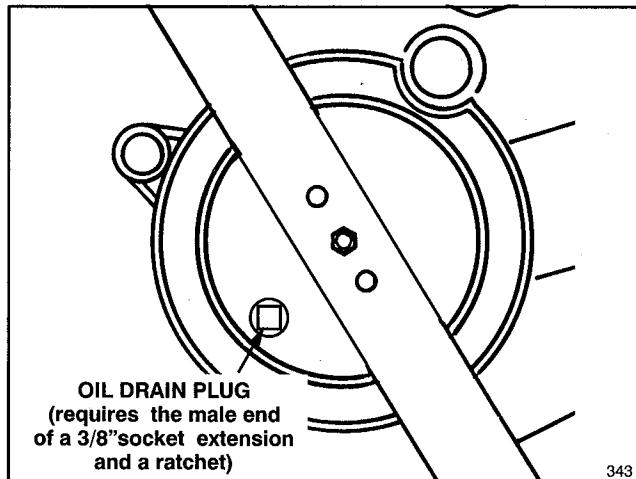

Figure 13
- The oil drain plug is on the underside of the mower deck (Fig. 13). The recommended procedure for tipping the mower to access the plug is to tip the mower backward onto its handle and have someone firmly hold the mower in this position while you remove the plug. **DO NOT TIP MOWER ON SIDES OR FORWARD WHEN DRAINING OIL.**
- Remove drain plug from underside of mower using the male end of a 3/8" square socket extension with a ratchet for turning (Fig. 13).